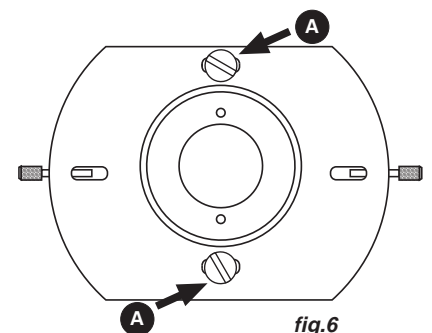

fig.6
8. **(Fig.6)** Tighten the fastening screws and close the cover again